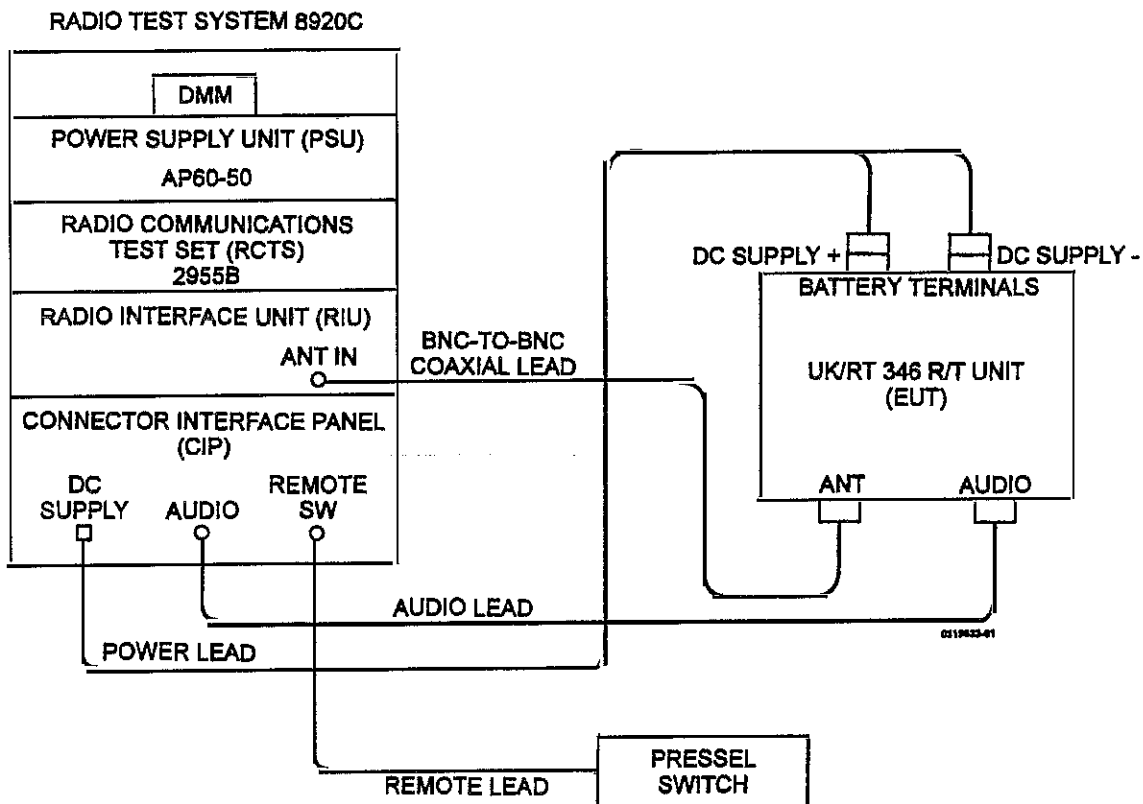

Fig 3 R/T unit initial test setup
31.1 With reference to Fig 3 and Table 1, connect the EUT and the 8920C test system as follows: